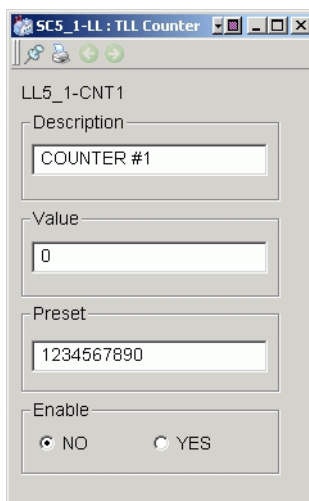

Figure 49. TLL Counter Faceplate
Each counter can have a faceplate, Figure 49. Select the counter and use the context menu to select the faceplate. The counter can be enabled (YES) or disabled (NO) from the faceplate. You can also change the Description, Preset and Value.